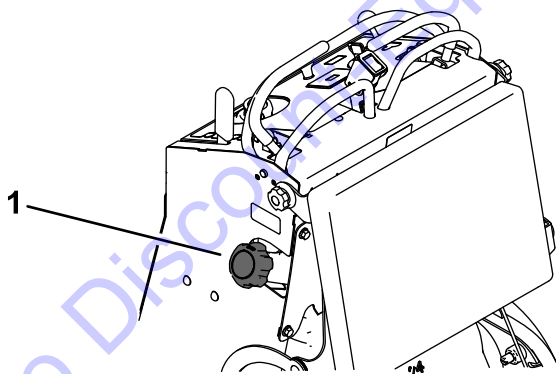

Figure 30
3. Clean around the fuel cap to prevent debris from getting into the fuel tank (Figure 30).
6. Using the syphon pump, drain the fuel into a clean fuel can (Figure 30).